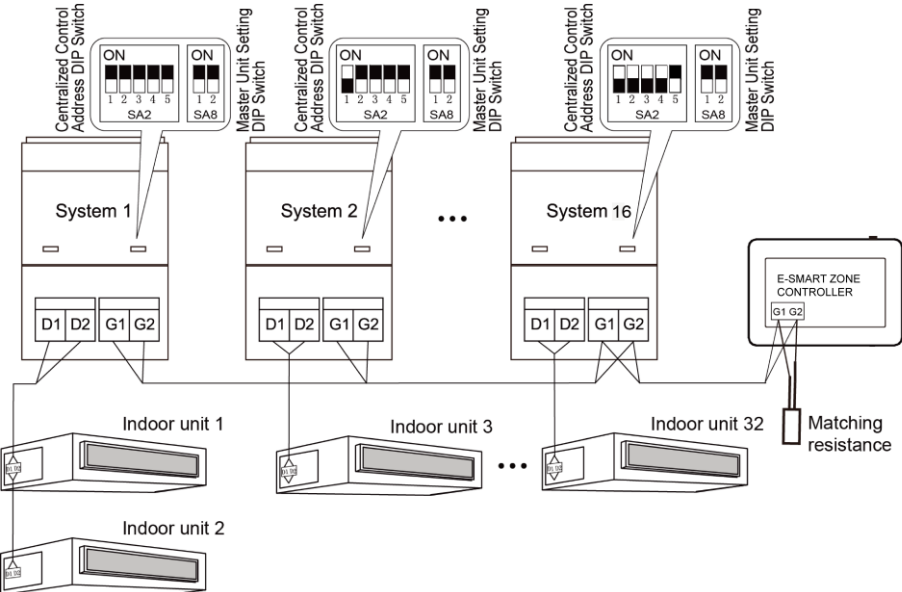

Fig.1.5 Centralized Controller Connected with ODU Network
- (3) If the centralized controller is to be connected with the ODU network, connect according to Fig.1.5. The centralized controller can only be connected with the terminal system of the ODU network. A matching resistance needs to be added with the communication cords at the G1 and G2